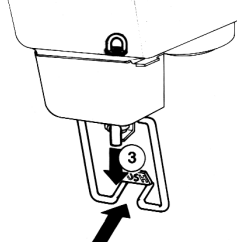

figure 11
- 3 - Lightly pull (3) the pinch tube end downwards till it is well arranged. (see figure 11).